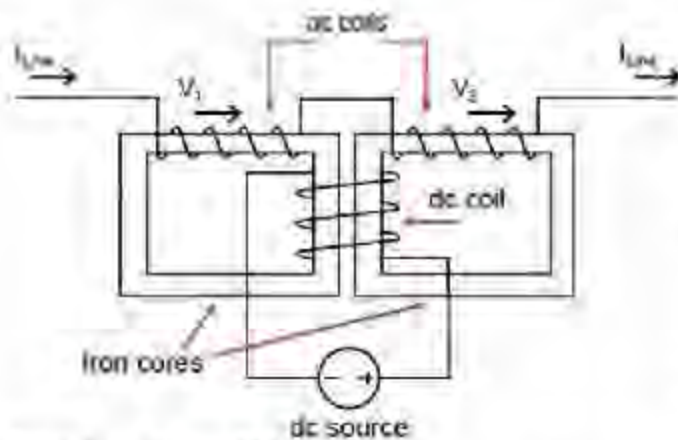

Fig. 9: Saturable core SFCL
- **Saturable Core Type SFCL:** saturable-core SFCLs utilize the dynamic behavior of the magnetic properties of iron to change the inductive reactance on the AC line. Arrangement shown in Figure 9. The line windings are made of conventional conductors that are wound on core to form an inductance in series with the AC line. The iron core also has a superconductive winding that provides a magnetic bias.